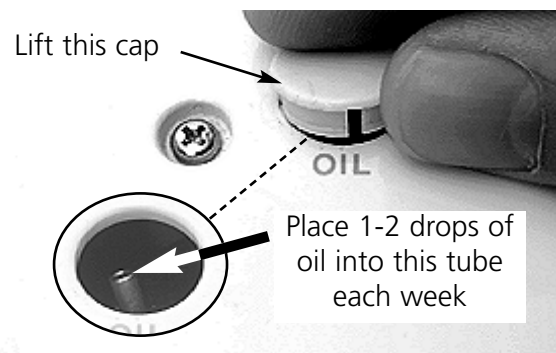

Figure 6-5
2. Lift the plastic cap and place 1-2 drops of lubricating oil in the tube shown in Figure 6-5 once every week. Replace the plastic cap when done.